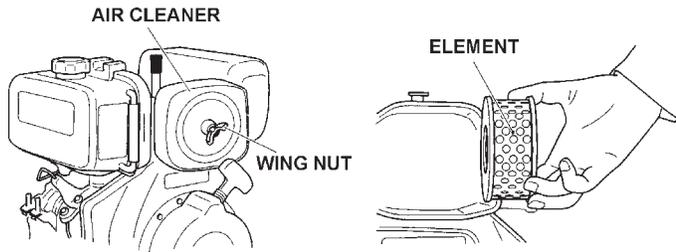

Figure 18. Engine Air Filter and Element
2. To clean or replace air filter loosen the wing nut on the air filter housing (Figure 18), remove the cover and take out air filter cartridge. If only cleaning of the air filter is desired blow through the air filter cartridge from the inside, moving a jet of dry compressed air up and down until all dust is removed.